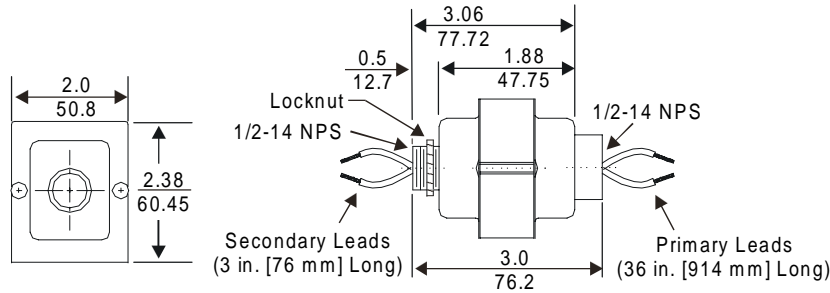

Figure 2: Transformer Dimensions, in. (mm)
3. Remove the locknut on the transformer hub. (See Figure 2.)
5. Remove the locknut on the transformer hub. (See Figure 2.)